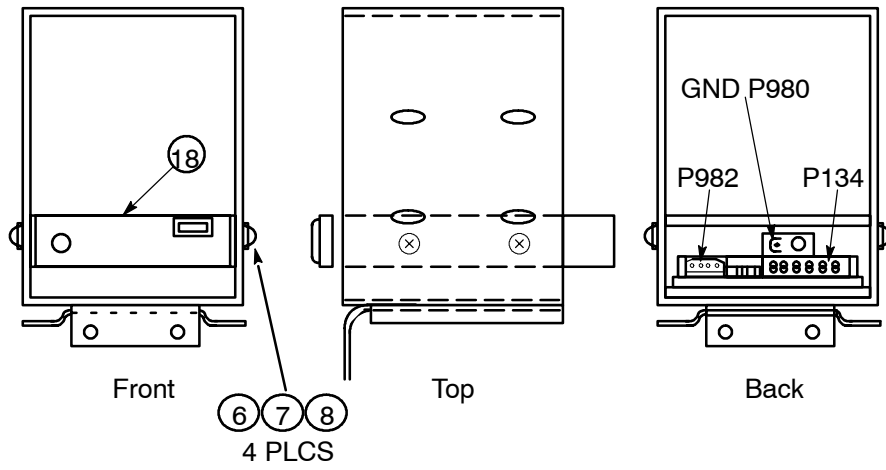
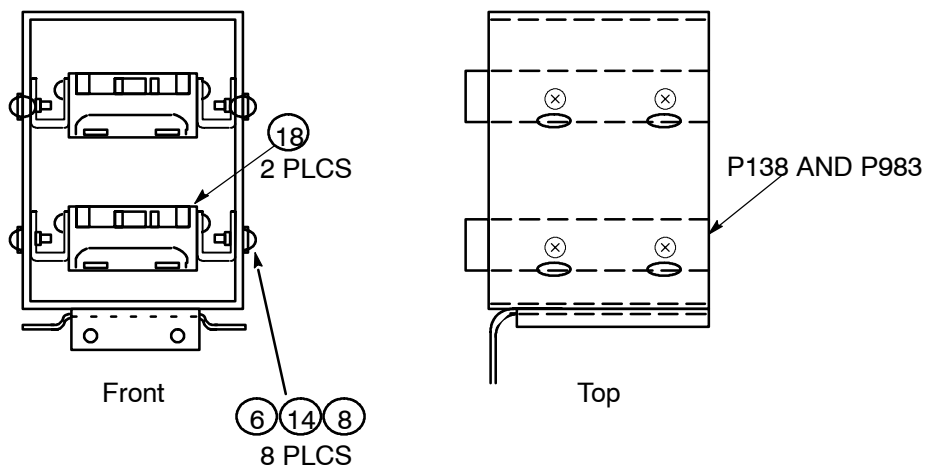

Figure 4.5. Tape Drive Mounting in Can
Figure 4.6. Hard Disk Mounting in Can
- 4 Mount the tape drives in one wide mounting can (p/n 1984-2761-0001), as shown in Figure 4.5. Mount the hard disks in the other wide mounting can as shown in Figure 4.6.
- 4 Mount the hard drive in one wide mounting can (P/N 1984-2761-0001) as shown in Figure 4.6.